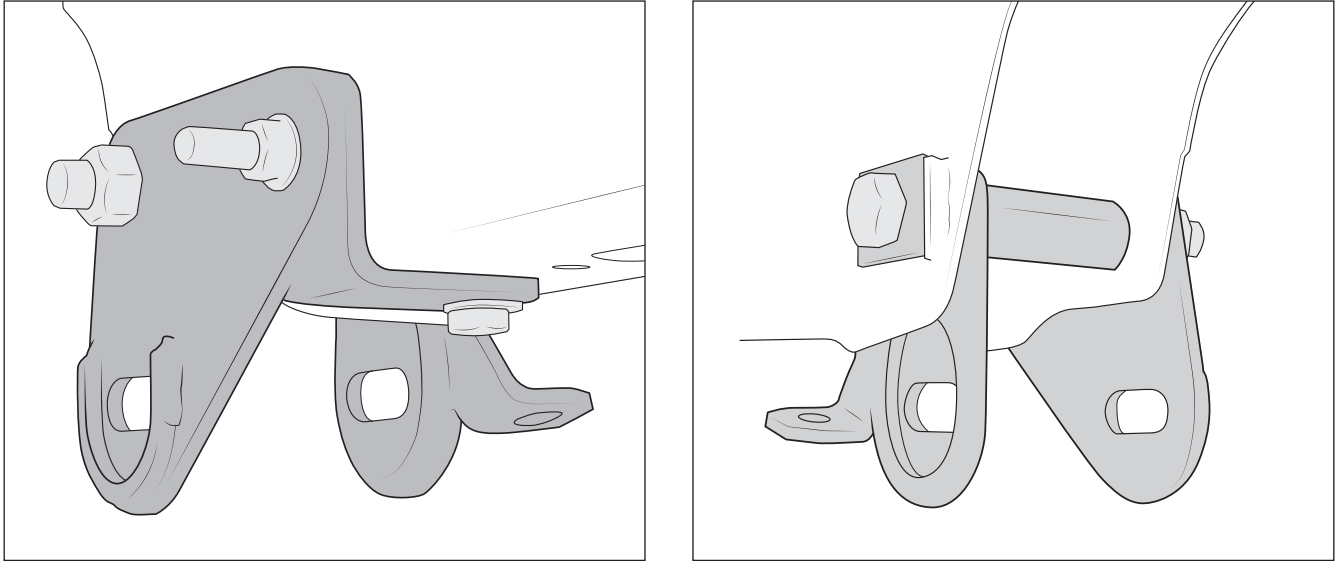

Figure 7 Left: Front View Right: Rear View
- B. Reinstall front LCA drop brackets. Front face mounts with M12x55mm fully threaded bolt and flange nut. Long end of M12x55mm bolt must stick forward for skid plate to mount to later (fig. 7) Install rear portion of front brackets (NRMS0523 and NRMS0524) to frame pockets using 18mm bolts and additional cam centering blocks (NRMS5002). Bottom mounts with M12x35mm bolts, washers, and flange nuts that will sandwich both brackets against frame. Bolts should point upwards. Leave loose at this time.